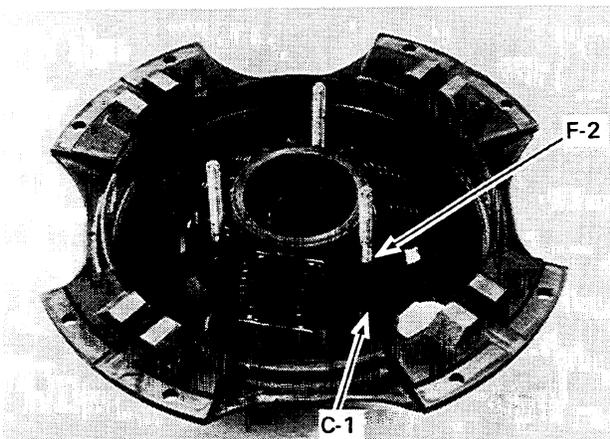

Figure 11:
9. Install three 5/16" x 5" threaded rods through clearance holes in release sleeve retainer (F-2) and into holes provided in flywheel ring. Threaded rod must pass through flywheel ring far enough to put hex nuts on both ends (see Fig. 11).